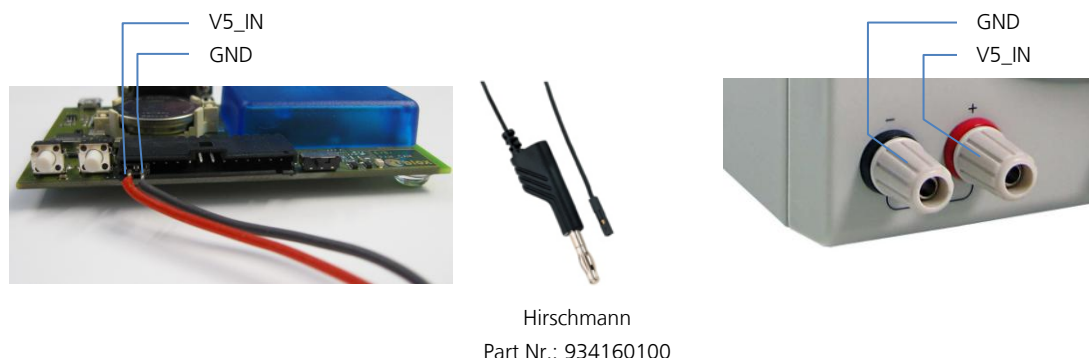
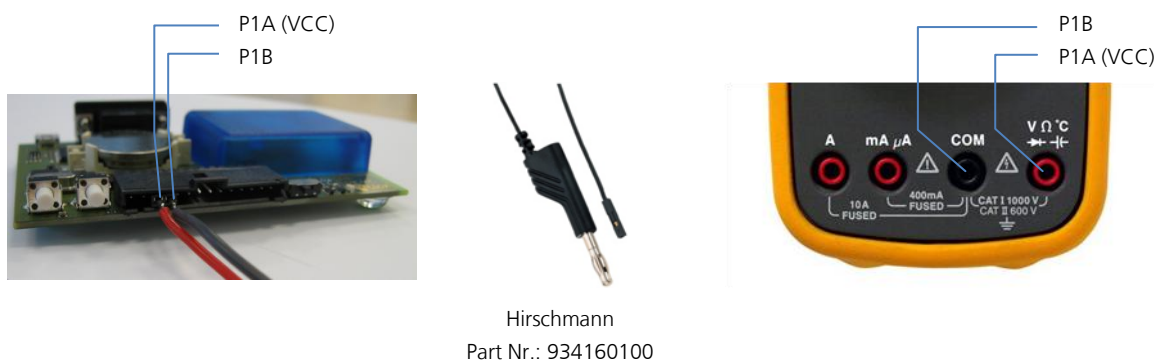

Figure 3: Example 5V DC power supply
Figure 4: Example – tracking current measurement
For accurate measurements, it is recommended to use a cable of at most 1 meter in length. Figure 3 shows an example of a power supply connected to the test connector by using standard adapter cables from the manufacture Hirschmann. Figure 4 shows an example for overall current measurement.
1. Connect a true rms voltmeter across P1A (VCC) and P1B of the front connector (see Figure 4).